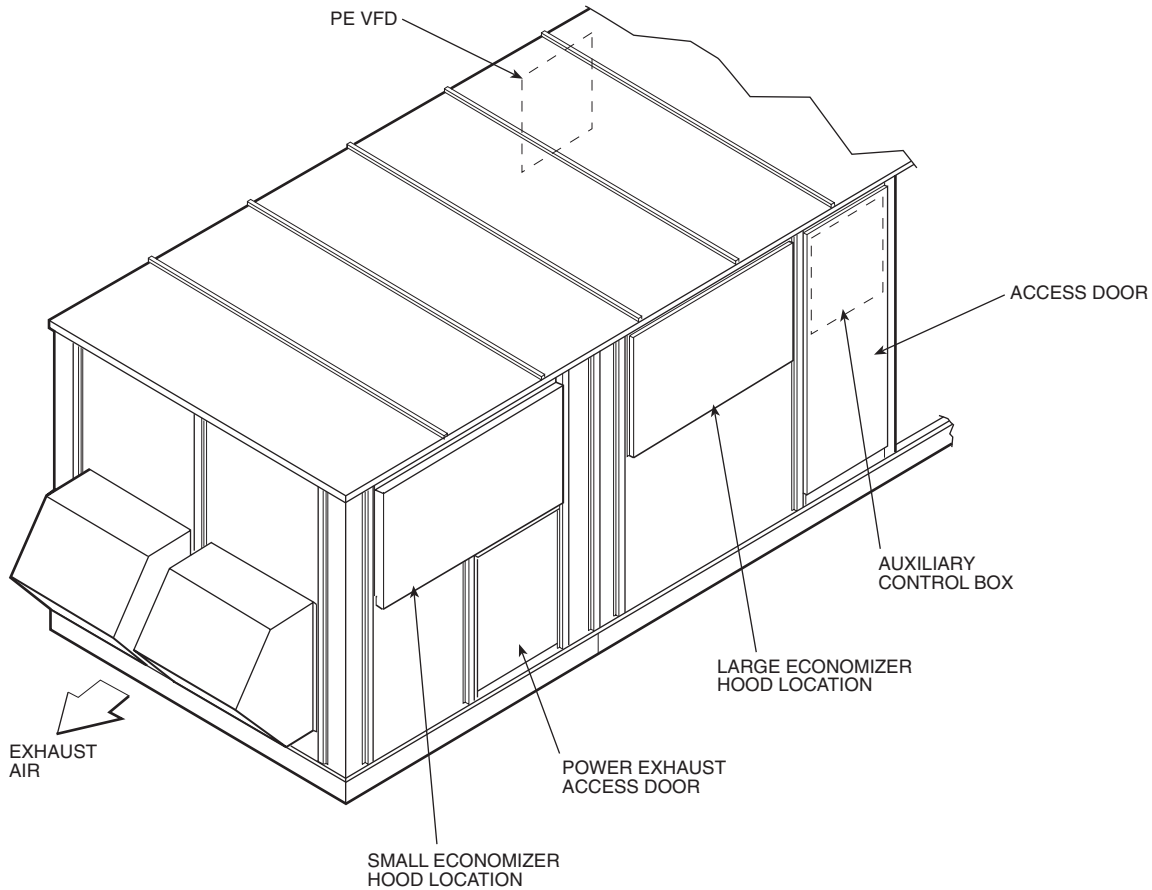

Fig. 57 — High Capacity Power Exhaust Details — 48ZW and 50ZW,ZZ Units
POWER EXHAUST VFD CONTROL — On 48ZW and 50ZW,ZZ units with factory-installed power exhaust VFD, the power exhaust VFD controls building pressure (BP) in response to input signals received from the base unit PIC control module. The power exhaust VFD is located in the auxiliary control box located on the left hand side of the unit. See Fig. 57. The base unit control monitors building pressure via a different building pressure transducer. The pressure transducer is located in the unit auxiliary control box (see Fig. 57). The pressure transducer's low pressure reference port is routed to the outside of the unit cabinet by a factory-installed tubing section. The pressure transducer's high pressure reference point must be field-routed to the building pressure pick-up which is field-supplied and installed in the building. See Air Pressure Tubing page 50 for recommended location.